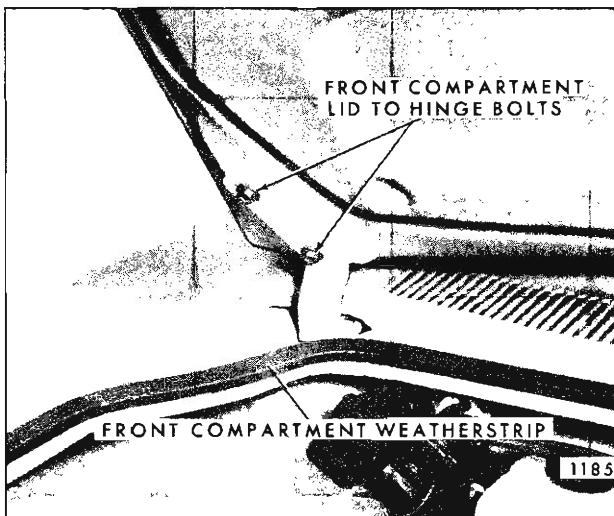

Fig. 5C16—Front Compartment Weatherstrip and Front Compartment Lid Attaching Bolt
3. With aid of a helper remove hinge to lid attaching bolts from each hinge and remove lid (Fig. 5C16).
1. To adjust front compartment lid forward or rearward or from side to side in body opening, loosen hinge to upper shroud attaching bolts at each hinge and adjust lid as required; then tighten bolts (Fig. 5C17).